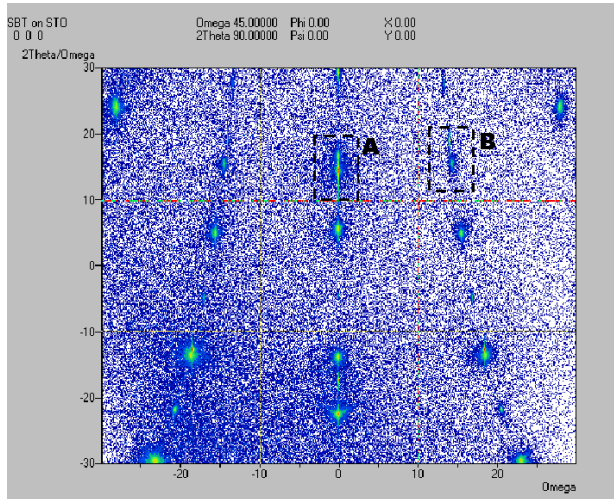
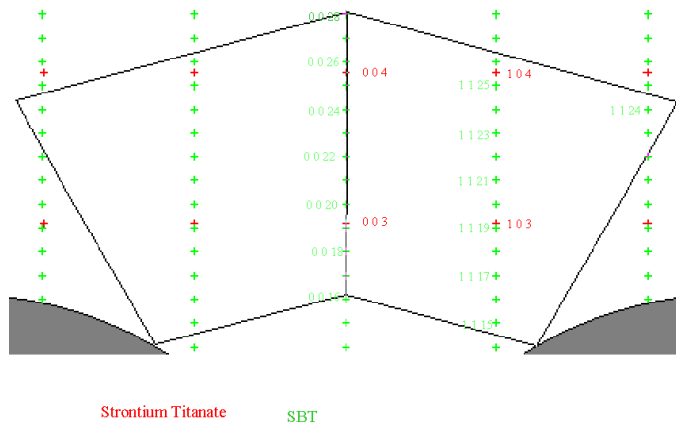

Figure 3-7: Graphics Area
Figure 3-8: Reciprocal Space Area Included in this Scan
Figure 3-7 shows the graphics area. The two areas indicated by A and B are the two areas which we will extract as maps.
Figure 3-8 shows the area of reciprocal space included in this scan. This figure is an annotated version of the reciprocal space map from X'Pert Data Collector. The red crosses are reflections from the strontium titanate substrate. The green crosses are reflections from the layer. The hkl values are shown for allowed reflections. The four hkl values outlined in black are the reflections included in areas A and B of Figure 3-7.
- Using Figure 3-7 as a guide, zoom into area A.